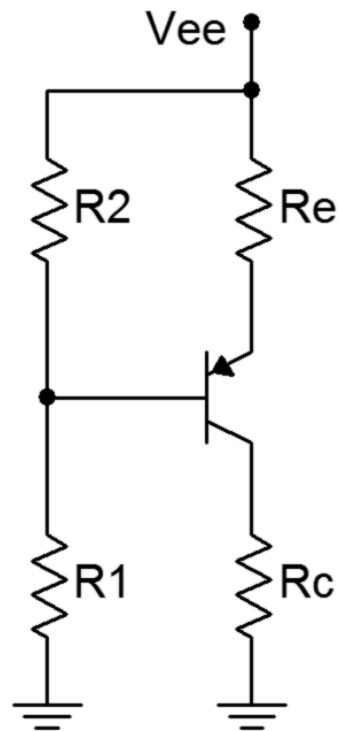

Figure 1
1. Consider the circuit of Figure 1 using  $V_{ee} = 10$  volts,  $R_1 = 10\text{ k}\Omega$ ,  $R_2 = 3.3\text{ k}\Omega$ ,  $R_e = 4.7\text{ k}\Omega$  and  $R_c = 5.6\text{ k}\Omega$ . Using the approximation of a lightly loaded “stiff” voltage divider, determine the theoretical base, emitter and collector voltages, and record them in Table 1 (Theory).
2. Build the circuit of Figure 1 using  $V_{ee} = 10$  volts,  $R_1 = 10\text{ k}\Omega$ ,  $R_2 = 3.3\text{ k}\Omega$ ,  $R_e = 4.7\text{ k}\Omega$  and  $R_c = 5.6\text{ k}\Omega$ . Measure the base, emitter and collector voltages and record them in the first row of Table 1 (Experimental).